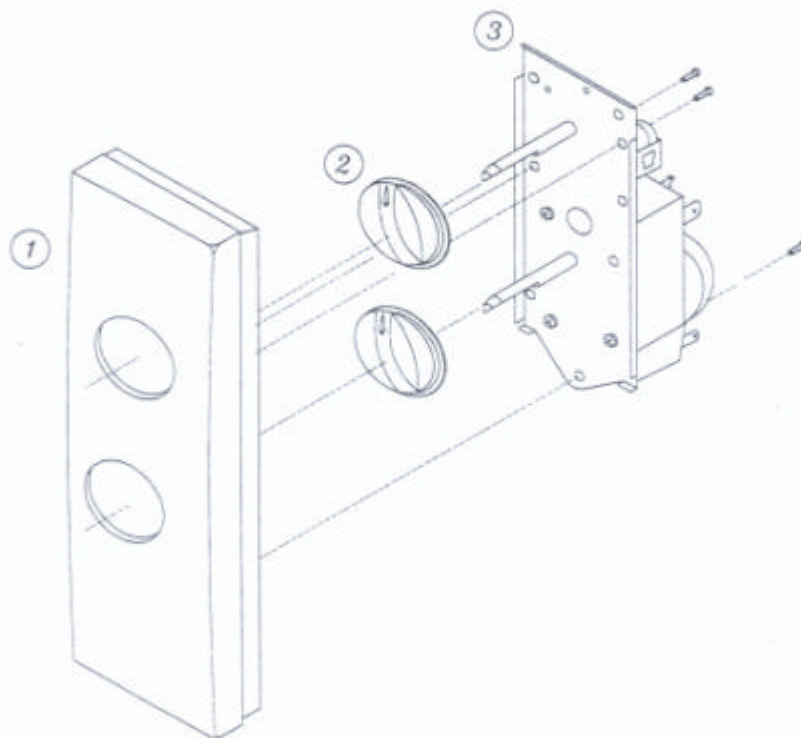

Fig 14.2 CONTROL PANEL ASSEMBLY
(2) CONTROL PANEL ASSEMBLY (Fig. 14.2)